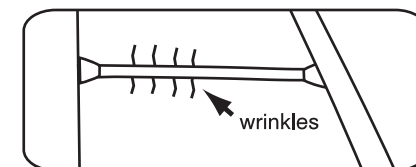

Figure 6: Tension the battens until there are no vertical wrinkles on either side of the batten pocket.
- Use the tensioner key that is stored in the pad of the sail and tension the battens until you eliminate any vertical wrinkles that extend out from either side of the batten pocket (figure 6).